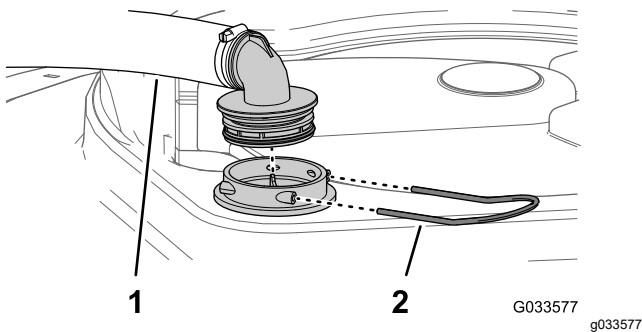

Figure 28
2. At the top of the sprayer tank, remove the retainer that secures the hose fitting attached to the large hose from the filter housing (Figure 28).
3. Remove the hose and hose fitting from the filter housing (Figure 28).